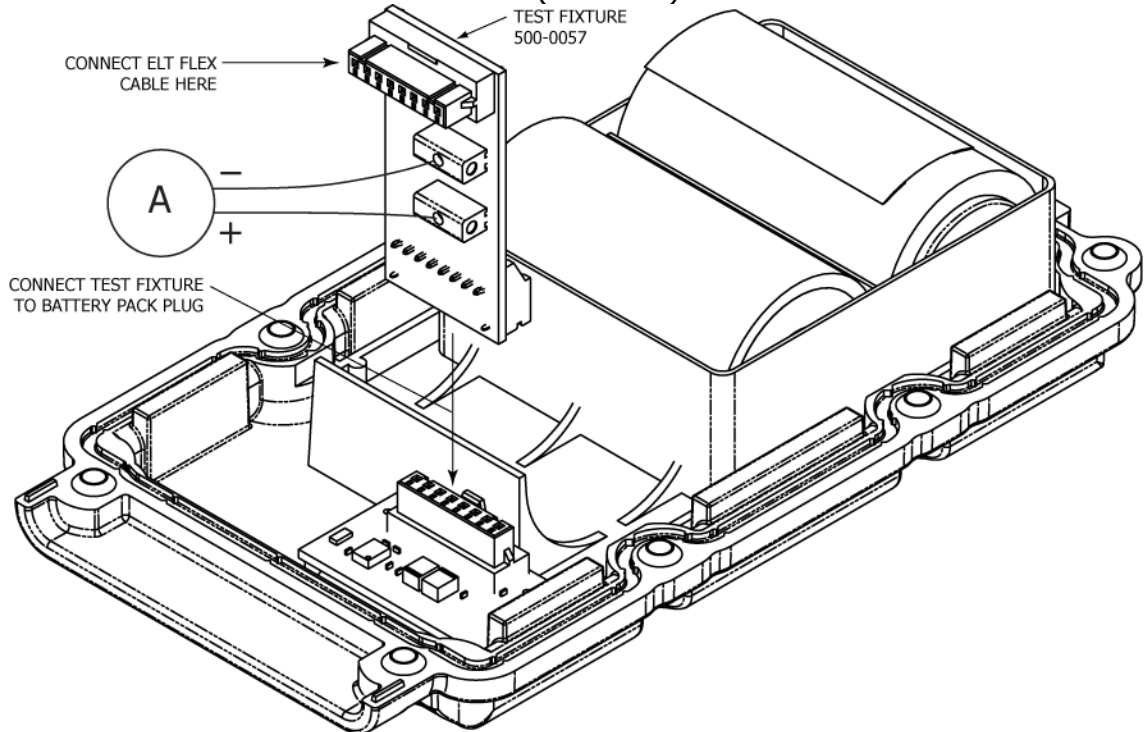

Figure 10 Current Draw Test Setup
- 3) Install test fixture 500-0057 in the power circuit. See Figure 10 Current Draw Test Setup.